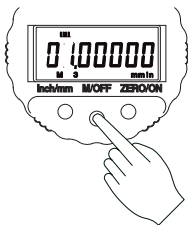

Figure 10 - Multiplier Mode
- 3) Press and hold **M/OFF** for 2 seconds until the M3 icon appears signifying that the unit is in the Multiplier Mode. (Figure 10) (Default Value 1.000).